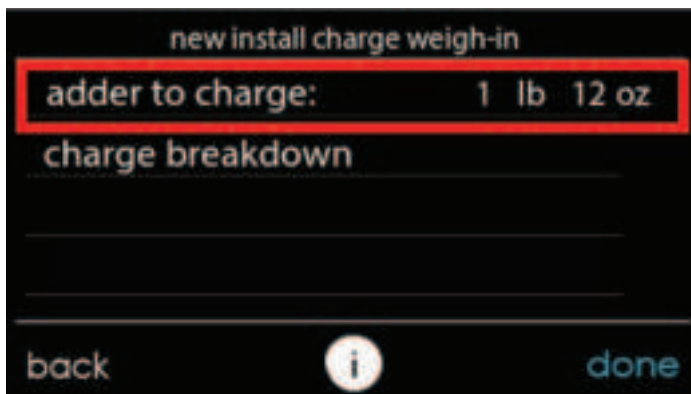

Fig. 20 – Additional Required Charge for New Installation
13. The "new install charge weigh-in" screen will show the additional charge that needs to be added to the system to account for the ID coil and line set (see Fig. 20).